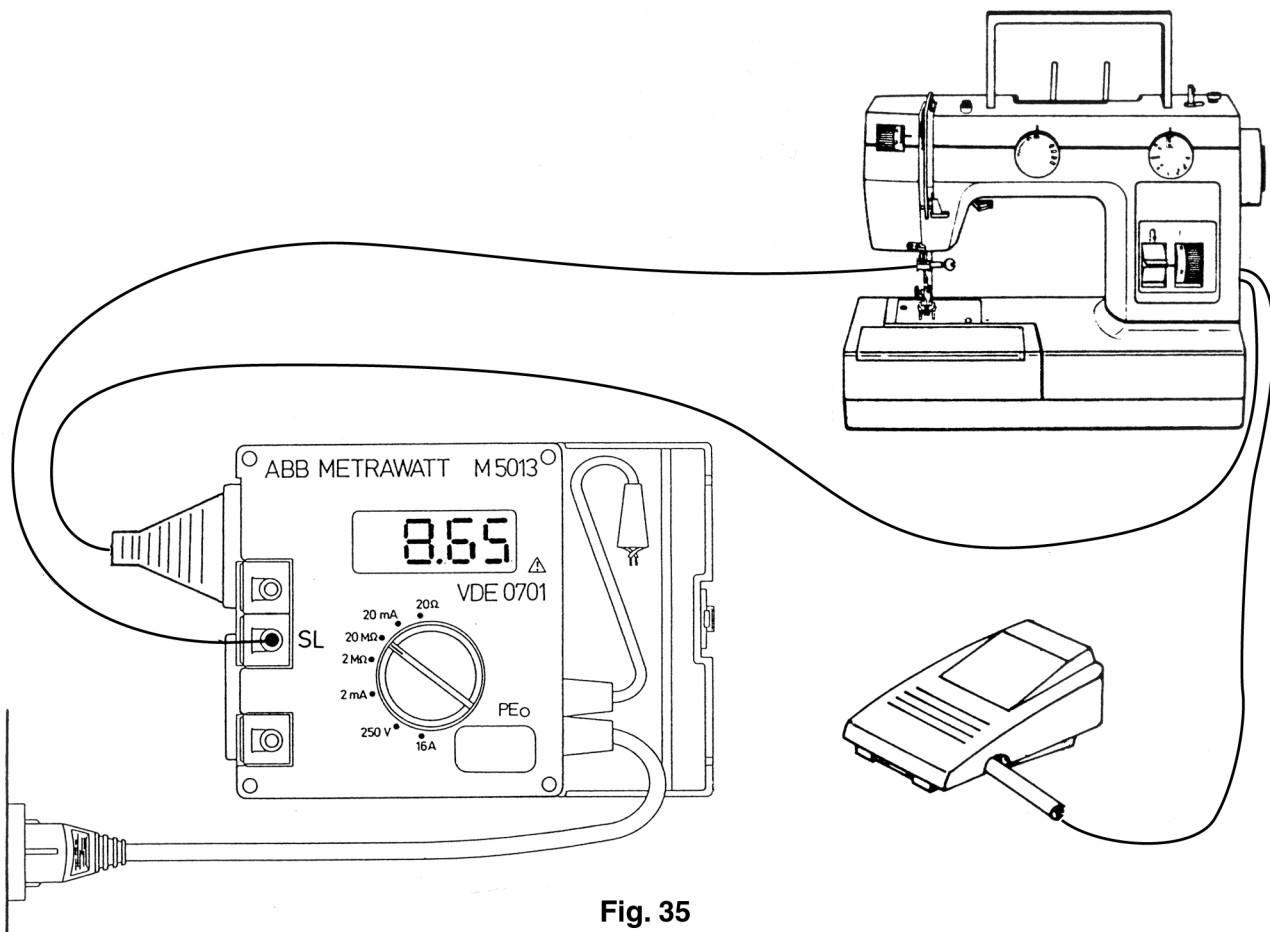

Fig. 35
- Set testing range switch at **"20 M Ohm"** (fig. 35).